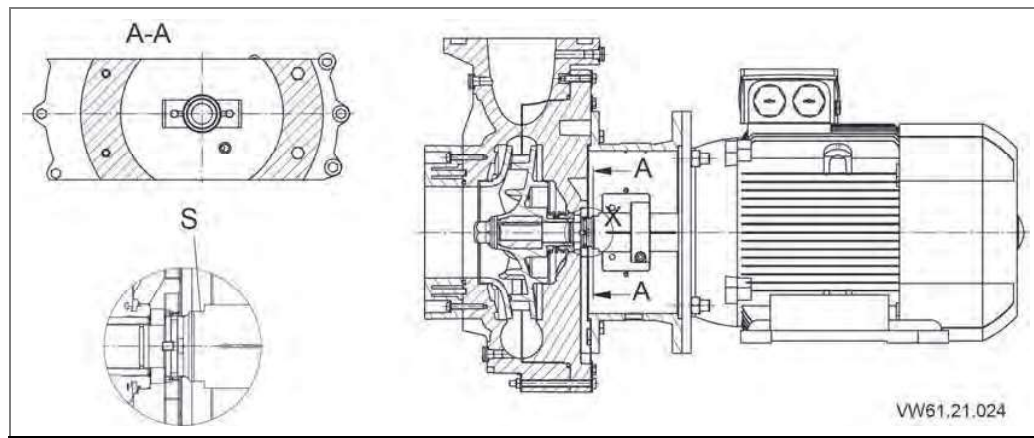

Fig. 8
1. Loosen the coupling protection (681) from the drive lantern (341).
2. Hold the pump shaft (210) at the opening. See "Fig. 8" on page 40
3. Loosen the impeller nut (922) with the inserted o-ring (412.4).
4. Remove the impeller (230). Place the impeller on a clean and level surface.
5. Remove the shaft key (940) from the shaft key nut.
6. Remove the rotating insert in the mechanical seal (433) from the impeller hub.
7. Loosen hexagon screws (901).
8. Loosen the gland housing (161) from the lantern (341).
9. Remove the counter ring in the mechanical seal (433) from the gland housing (161).
1. Insert shaft key (940) into shaft key nut.
2. Push the impeller (230) onto the shaft (210).
3. Hold the pump shaft at the opening. See "Fig. 8" on page 40
4. Fasten the impeller nut (922), with the inserted O-ring (412.4). Observe the torque! See point 8.6 on page 41
4. Pull both lockwashers (931) completely out of the shaft nut. See "Fig. 8" on page 40